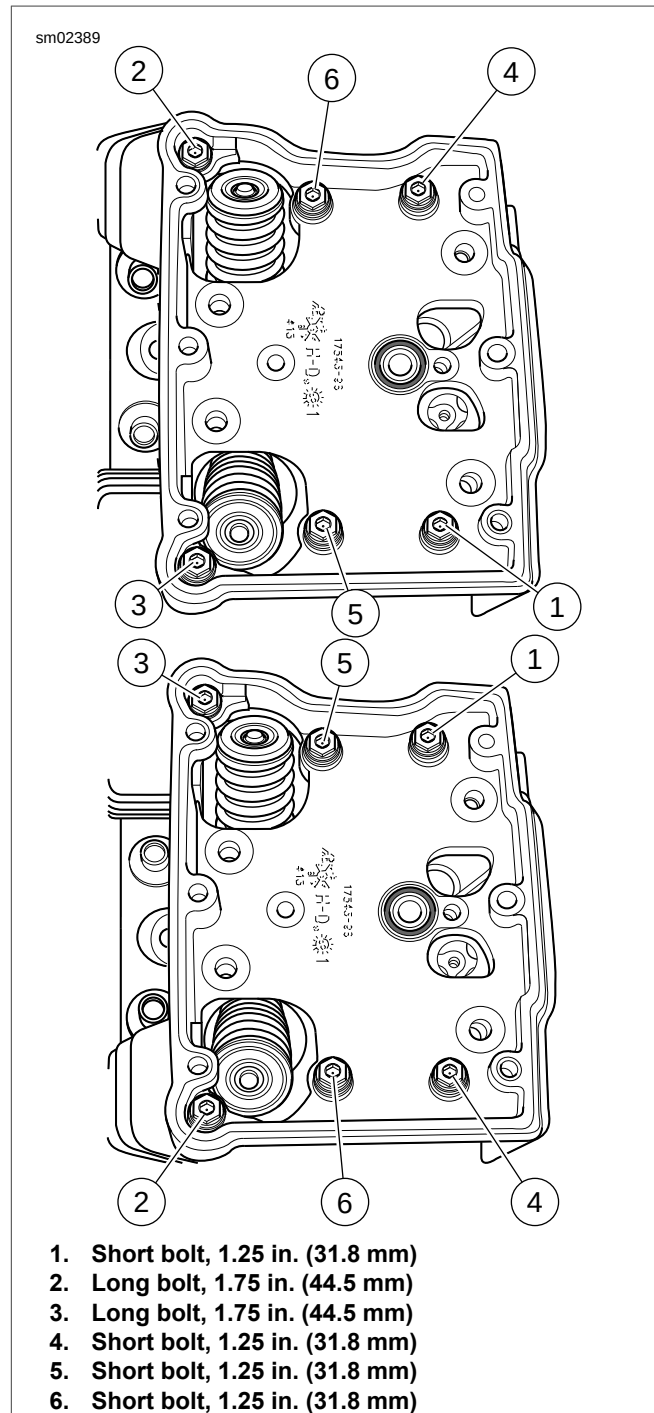
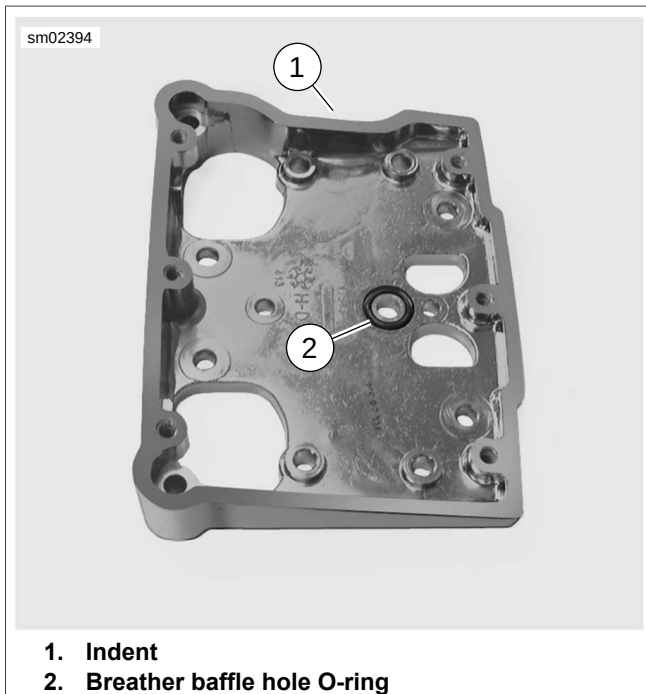

Figure 3-82. Rocker Housing Torque Sequence and Bolt Size
Figure 3-83. Rocker Housing Alignment
8. See Figure 3-83. Install rocker housing.
- a. With the indent (1) facing forward, place the rocker housing into position aligning the holes in the housing with those in the gasket.
- b. See Figure 3-82. Apply a drop of LOCTITE 243 MEDIUM STRENGTH THREADLOCKER AND SEALANT (blue) to threads of six rocker housing bolts.
9. See Figure 3-83. Apply a very thin film of clean engine oil to **new** baffle hole O-ring (2). Install **new** O-ring in groove around breather baffle hole in rocker housing.